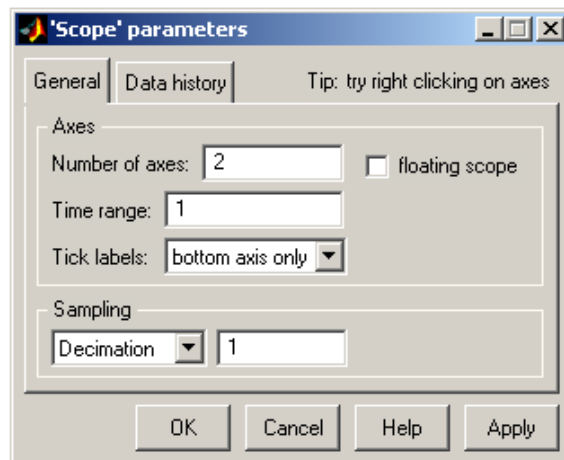

Figure 1.4: Scope Parameter Setting
- Also remove the mux block and add another input port to the scope by double clicking on the scope. Find the parameters icon in the upper right and change number of axes to two and time range to one second as in Fig. 1.4